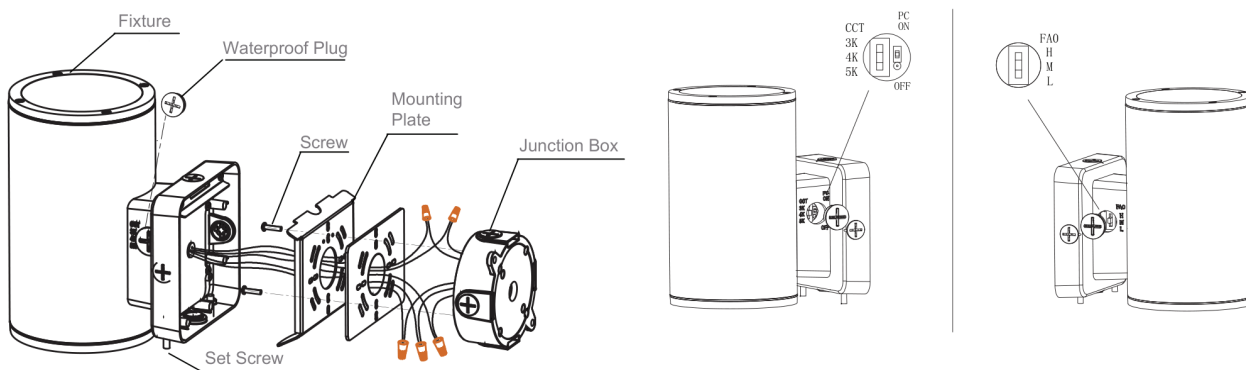

Figure 1 – Single Cylinder
1. Remove the waterproof plugs with a cross screwdriver (by others). See figure 1.